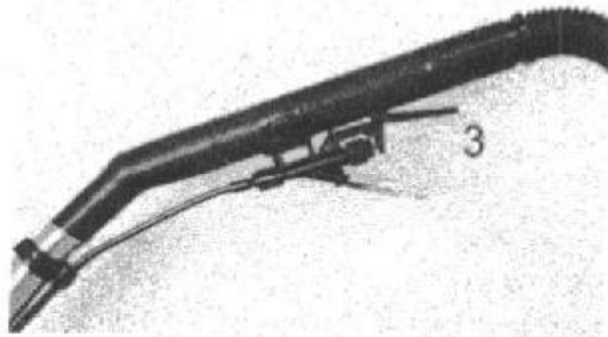

Fig.2
3. **Spray operating lever** - Controls the cleaning solution spray (Fig.2).